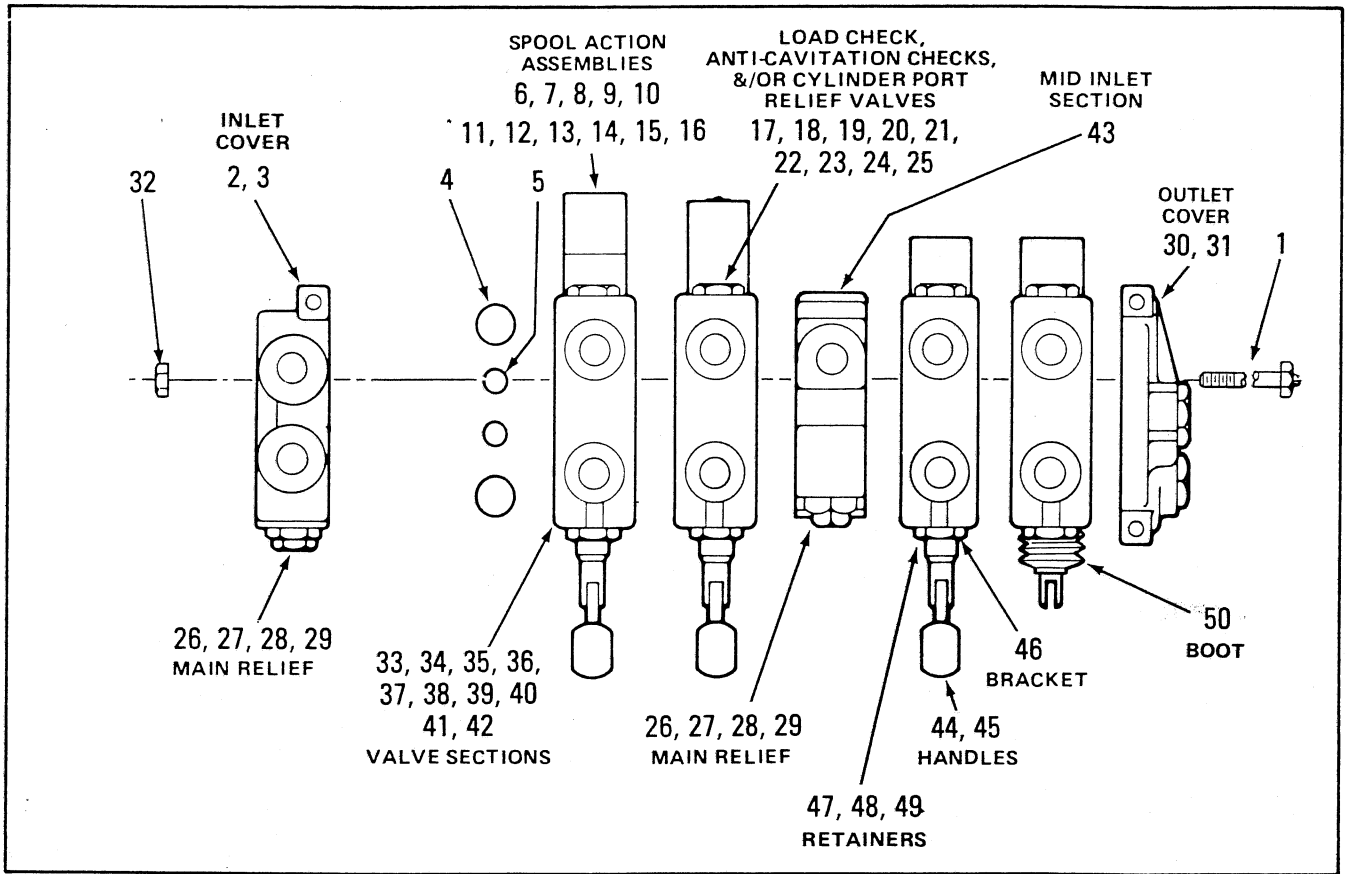

Figure 4-1. Model V20 Directional Control Valve, Typical Main Assembly.
2. Remove three assembly stud nuts (Item 32, Figure 4-1) from the left end section using a 9/16" thin wall socket.
3. Remove valve sections by sliding from assembly studs (Item 1, Figure 4-1).